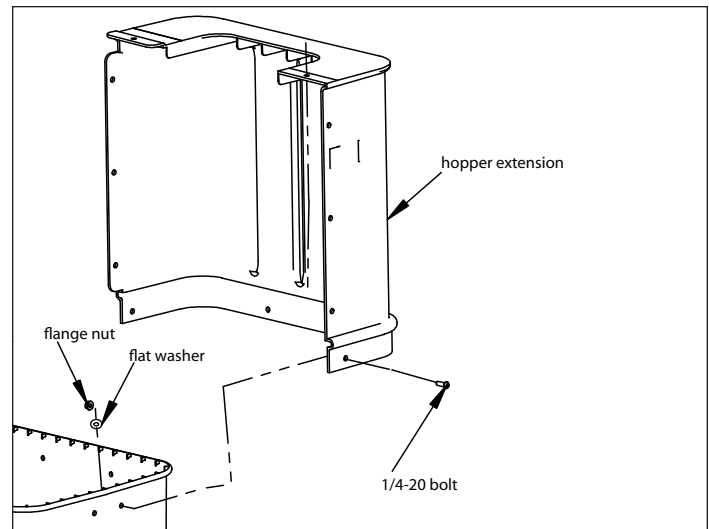

FIGURE 5
- 4) Follow Step 1 to install the second extension half to the opposite side of the hopper. Again, the bottom groove of the hopper extension should fit over the rim at the top of the hopper. Align the bolt holes between the top of the hopper and bottom of the hopper extension and insert hardware. **SEE FIGURE 5**